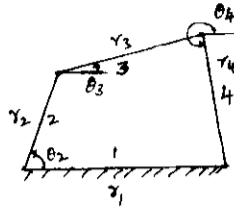

Fig.Q5(a)
- 5 a. Using complex algebra derive expressions for angular velocity of link 3 and 4 of 4 bar mechanism shown in Fig.Q5(a).